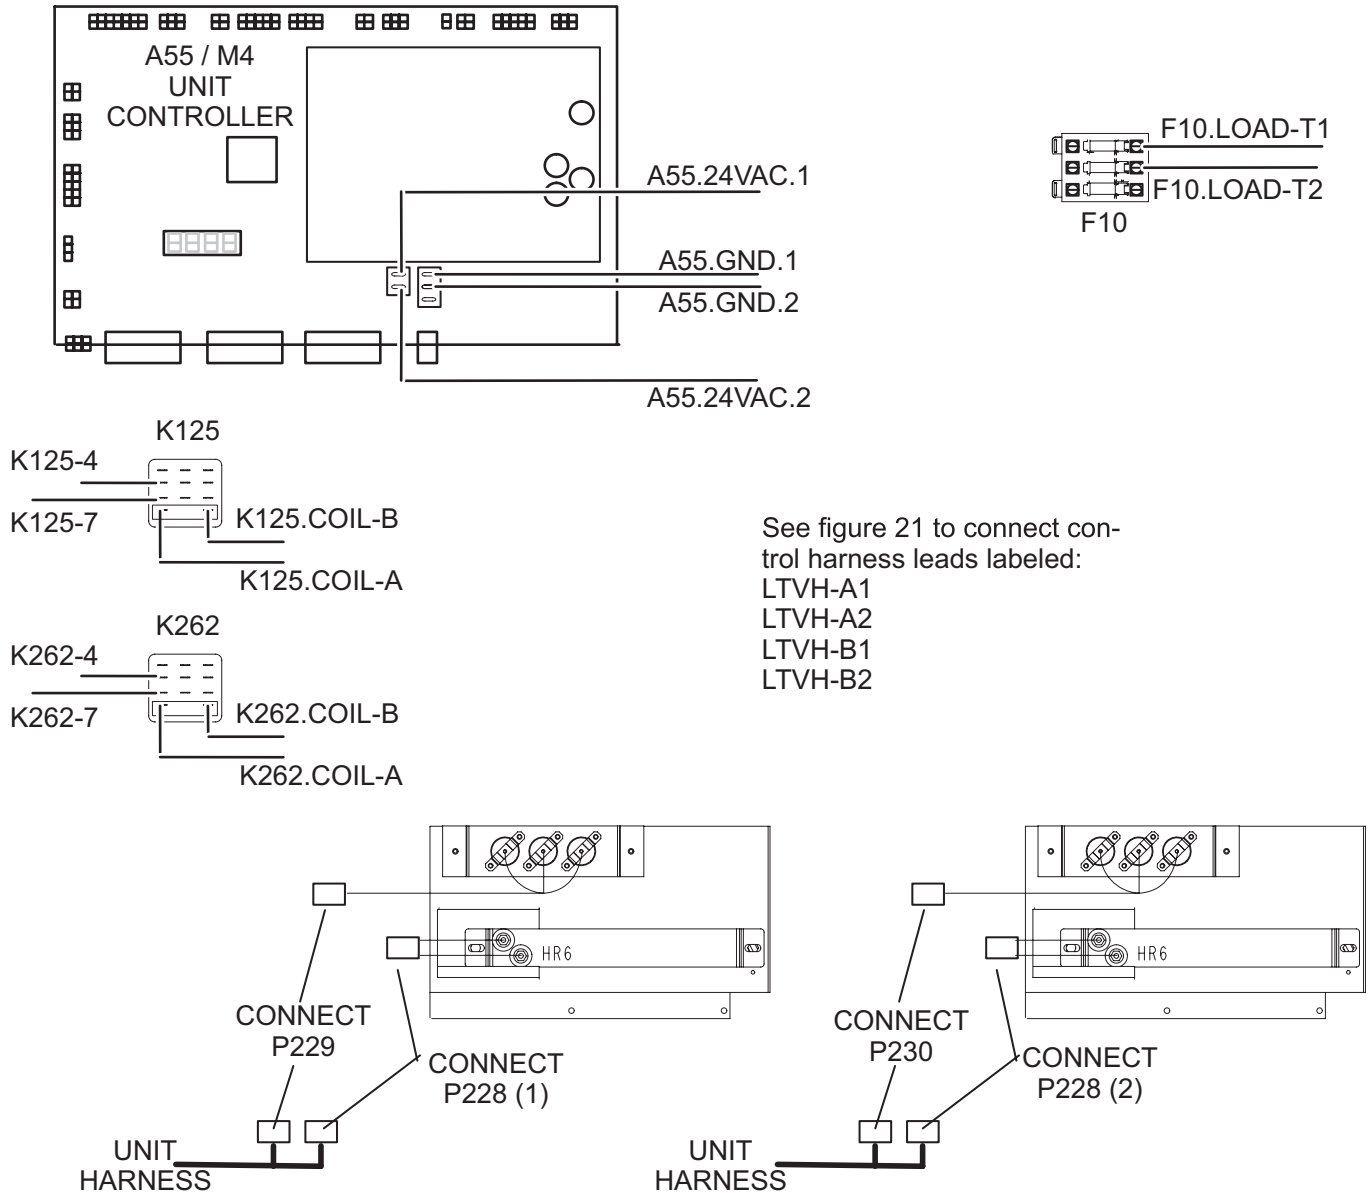
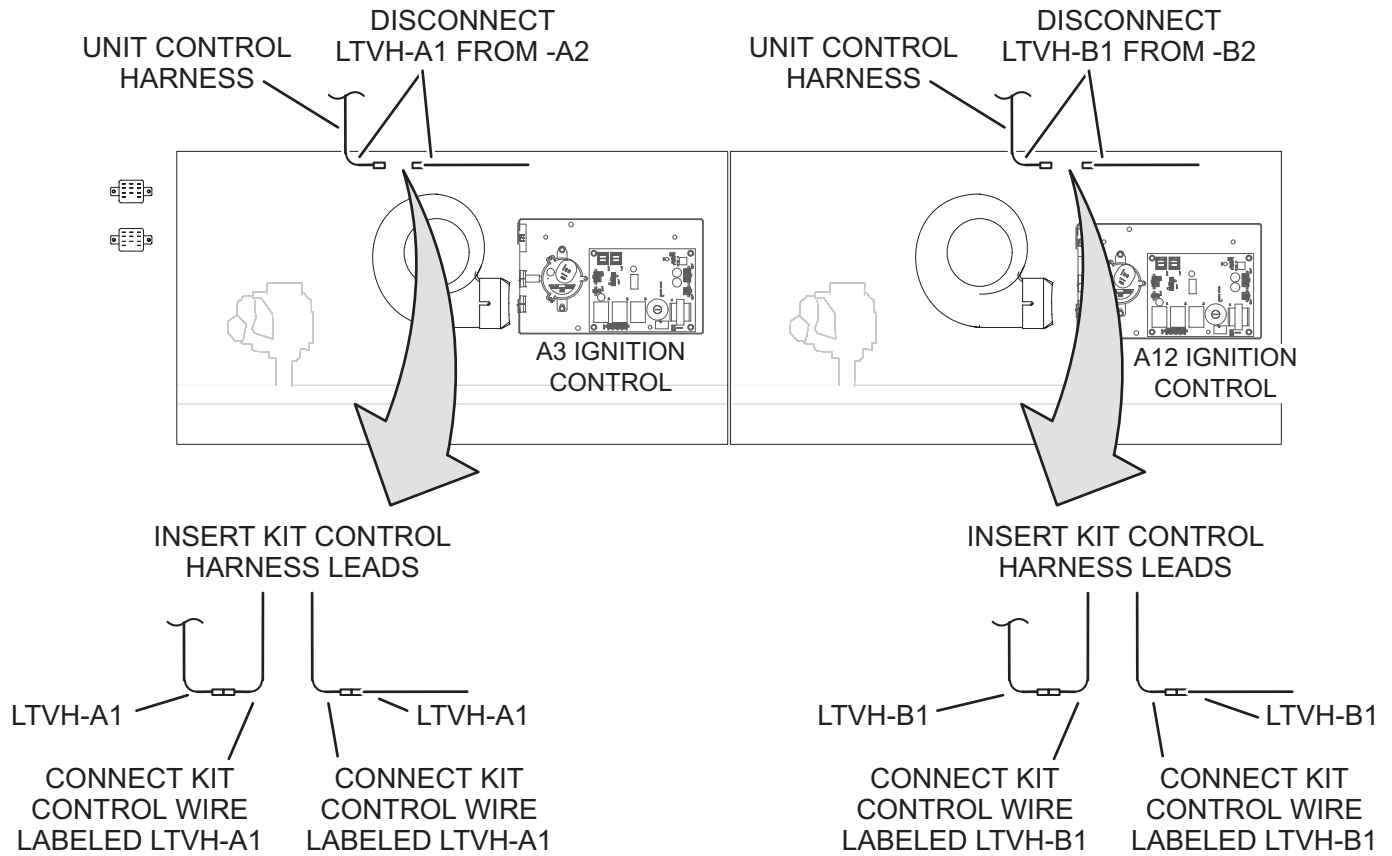

FIGURE 20
FIGURE 21
- 5 - Make wire connections as shown in FIGURE 20 and FIGURE 21.